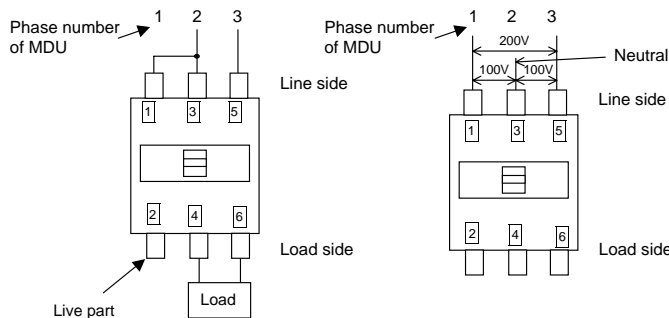

Fig1. Connection of using in 1 phase 2wire. Fig2. Connection of using in 1 phase 3wire.
- When MDU is used in 1 phase 2 wire, the connection is shown in figure 1. The load side of phase No.1 is live part. It needs insulation processing. Use the measurement data of I2, I3 and V2-3. Ignore the measurement data of I1, V1-3 and V3-1.